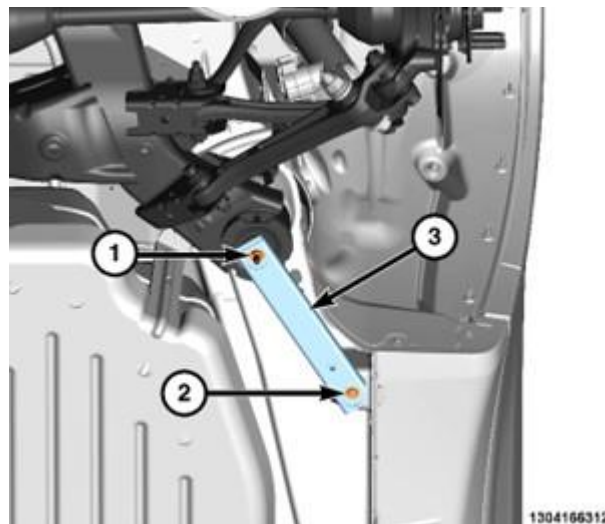

Figure 11 – Front Support Bracket
12. Remove the bolt (2) and nut (1) and remove the rear crossmember front support bracket (3) (Figure 11).
22. Install the rear crossmember front support bracket (3), bolt (2) and nut (1) and tighten to 20 N·m (15 ft. lbs.) (Figure 11).